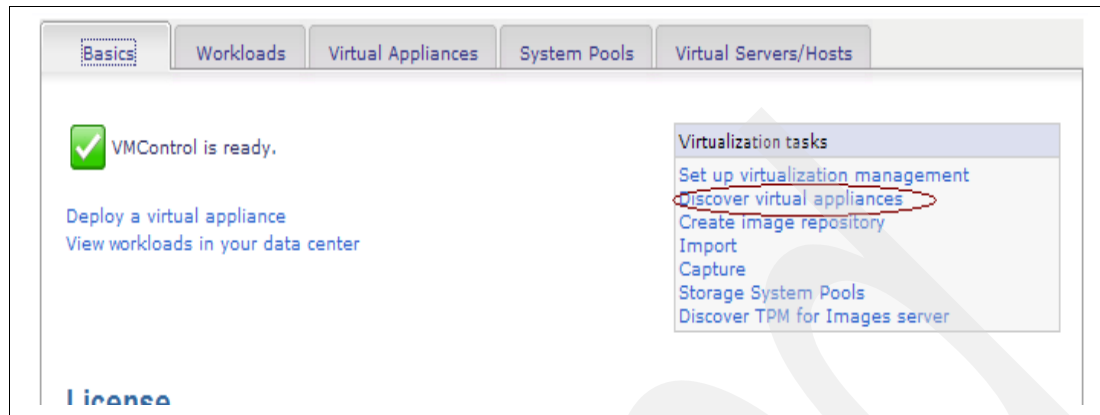

Figure 5-12 Discovering virtual appliances in the NIM image repository
5. From the VMControl summary page, go to the **Basics** tab and click **Discover virtual appliances** to discover your repositories (mksysb) and virtual appliances, as shown in Figure 5-12 on page 175. The virtual appliances that are already present in your